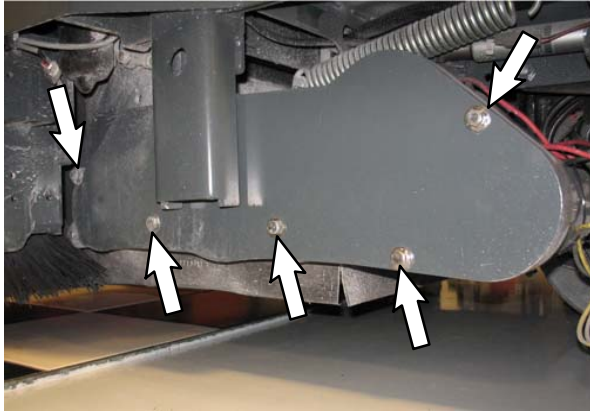
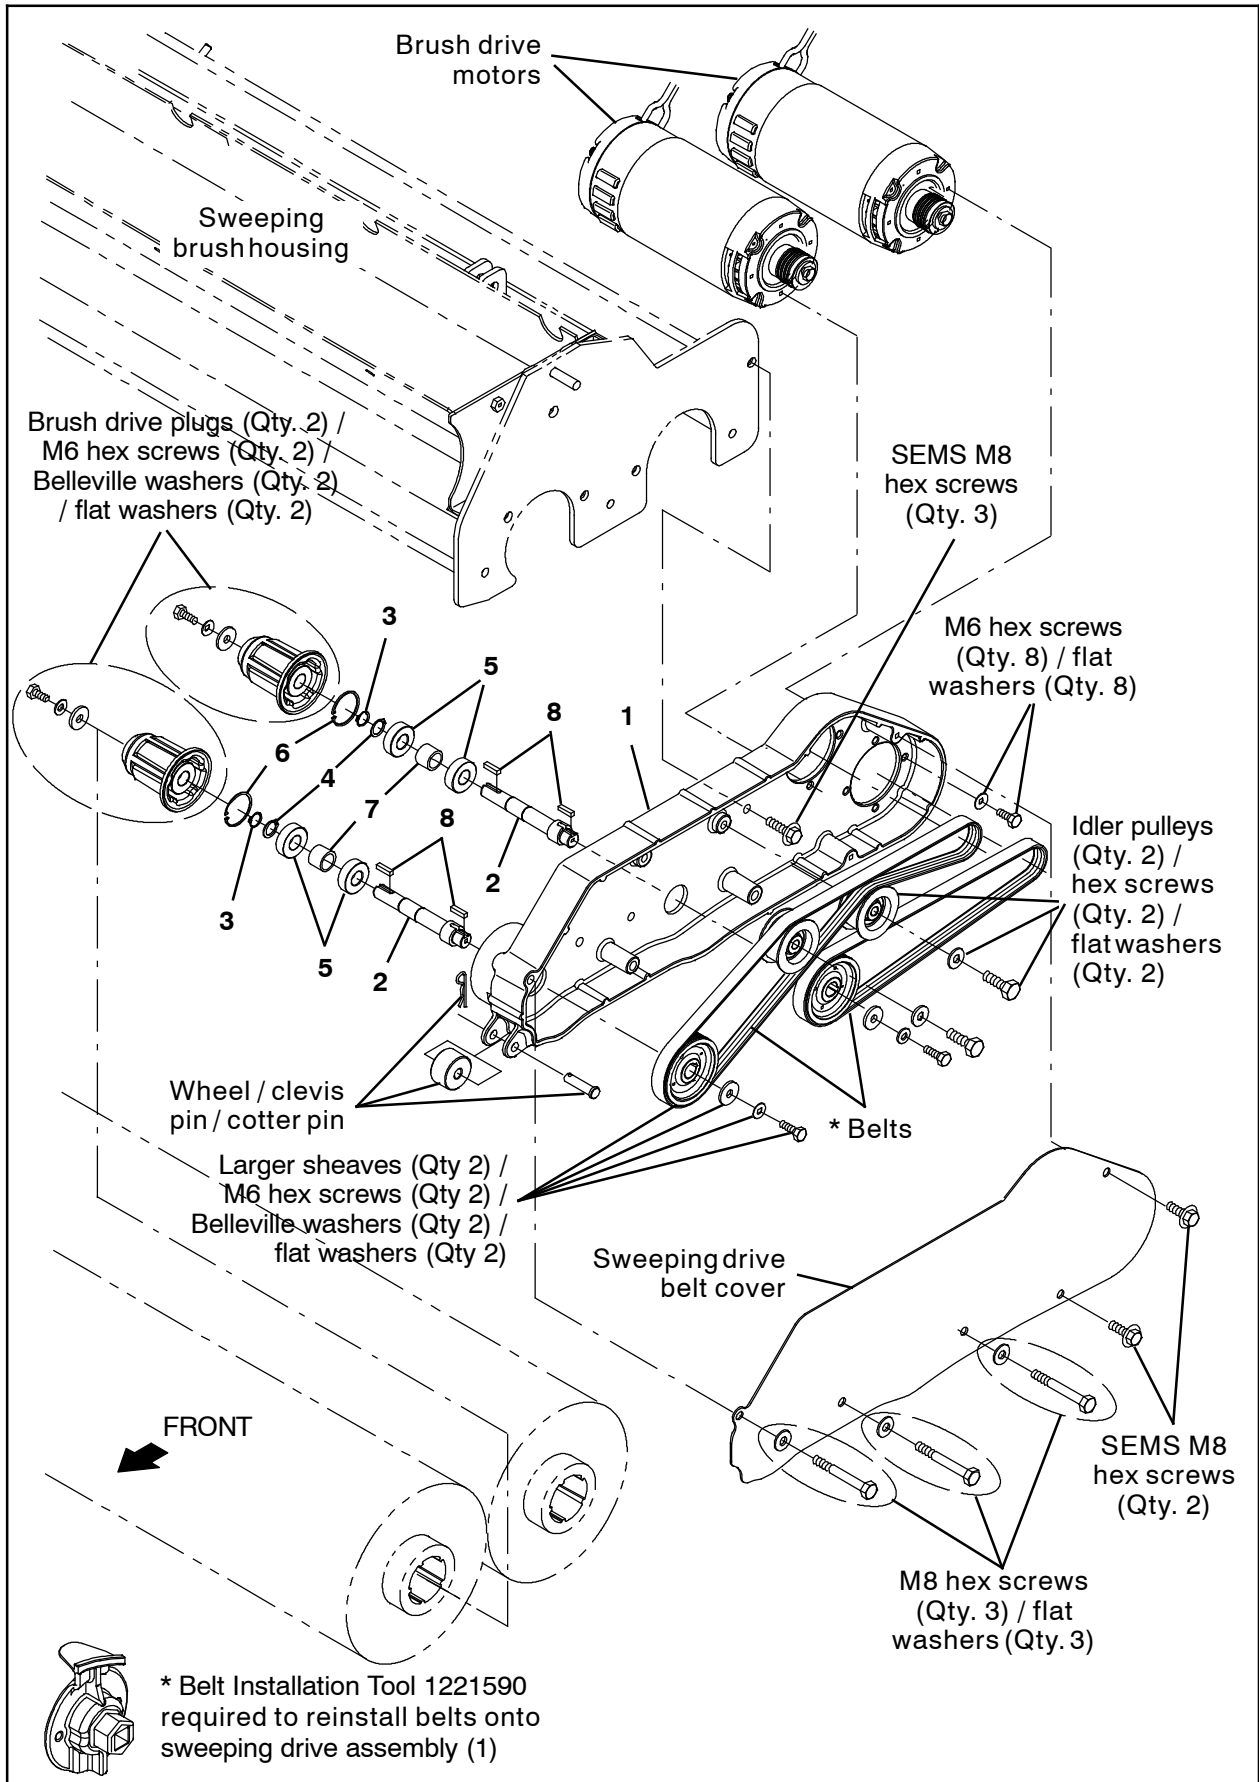

FIG. 2
FIG. 4
1. Remove the sweeping drive belt cover from the machine. Set the sweeping drive belt cover, SEMS M8 hex screws, M8 hex screws, and flat washers aside. (Fig. 2 / Fig. 4)
2. Disconnect the main wire harness from the brush drive motors. (Fig. 4)
3. Remove the sweeping drive assembly from the sweeping brush housing. Set the three SEMS M8 hex screws aside. (Fig. 4)
4. Remove both belts from the sweeping drive assembly. Set the belts aside. (Fig. 4)
5. Remove the M6 hex screws securing the motors to the sweeping drive assembly. Set the M6 hex screws and flat washers aside. (Fig. 4)
6. Remove both sheaves from the sweeping drive assembly. Set the sheaves, M6 hex screws, Belleville washers, and flat washers aside. (Fig. 4)
7. Remove both idler pulleys from the sweeping drive assembly. Set the idler pulleys, hex screws, and flat washers aside. (Fig. 4)
8. Remove both brush drive plugs from the sweeping drive assembly. Set the brush drive plugs, M6 hex screws, Belleville washers, and flat washers aside. (Fig. 4)
9. Remove the wheel from the sweeping drive assembly. Set the wheel, cotter pin, and clevis pin aside. Discard the sweeping drive assembly. (Fig. 4)
10. Install the wheel removed from the removed sweeping drive assembly onto the new sweeping drive assembly (1). (Fig. 4)
11. Place key (8) into the notches in each drive shaft (2) where the brush drive plugs will be installed in the following step. (Fig. 4)
12. Install the brush drive plugs onto the sweeping drive assembly (1). (Fig. 4)
13. Install the brush drive motors onto the sweeping drive assembly (1). (Fig. 4)
14. Place key (8) into the notches in each drive shaft (2) where the larger sheaves will be installed in the following step. (Fig. 4)
15. Apply a coat of blue Loctite® 243™ onto the threads of the two M6 hex screws used to install the sheaves onto the drive shafts (2). (Fig. 4)
16. Install the both sheaves onto the drive shafts in the sweeping drive assembly (1). (Fig. 4)
17. Apply a coat of blue Loctite® 243™ onto the threads of the two hex screws used to install the two idler pulleys into the sweeping drive assembly (1). (Fig. 4)
18. Install the two idler pulleys into the sweeping drive assembly (1). (Fig. 3 / Fig. 4)
*NOTE: Be sure the shoulders on the idler pulleys are oriented out away from the sweeping drive assembly (1). **Do Not** install the idler pulleys with the shoulders oriented in toward the sweeping drive assembly.*
19. Install both belts into the sweeping drive assembly (1). (Fig. 4)
20. Install the sweeping drive assembly (1) onto the sweeping brush housing and brush drive motors. (Fig. 4)